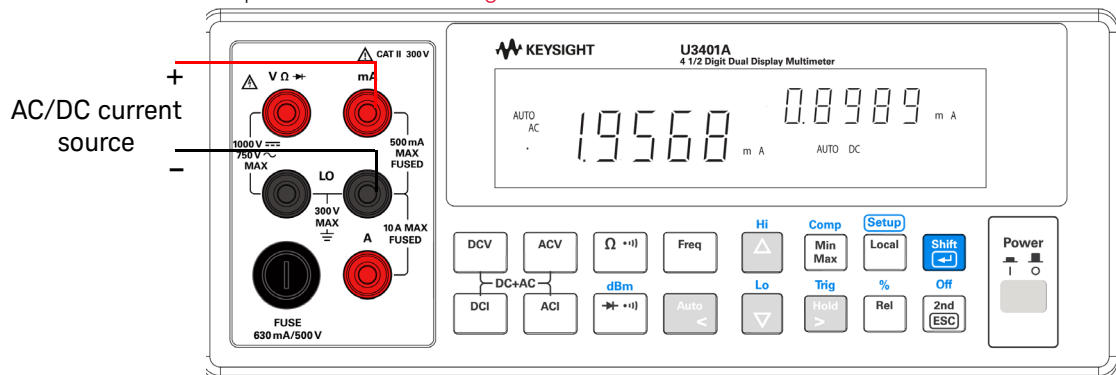

Figure 3-2 Connection terminal when using DC current and AC ripple
- 1 Connect the red and black test leads to the input terminal and probe the test points as shown in Figure 3-2.